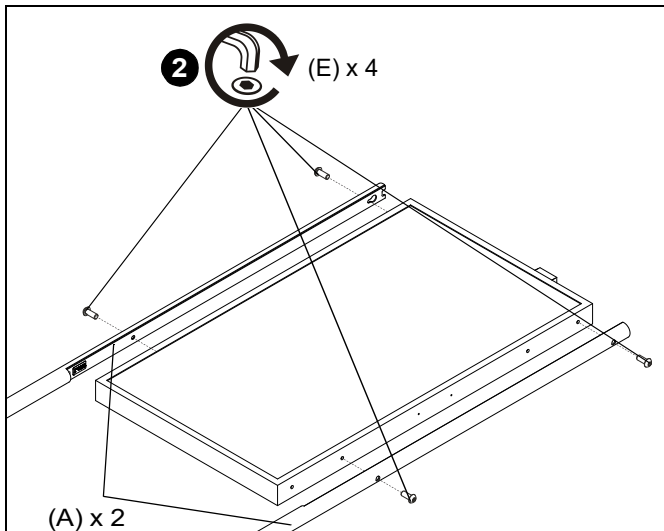

Figure 2
- Use four M8x20mm button head cap screws (E) to attach floor posts (A) to display. (See Figure 2)